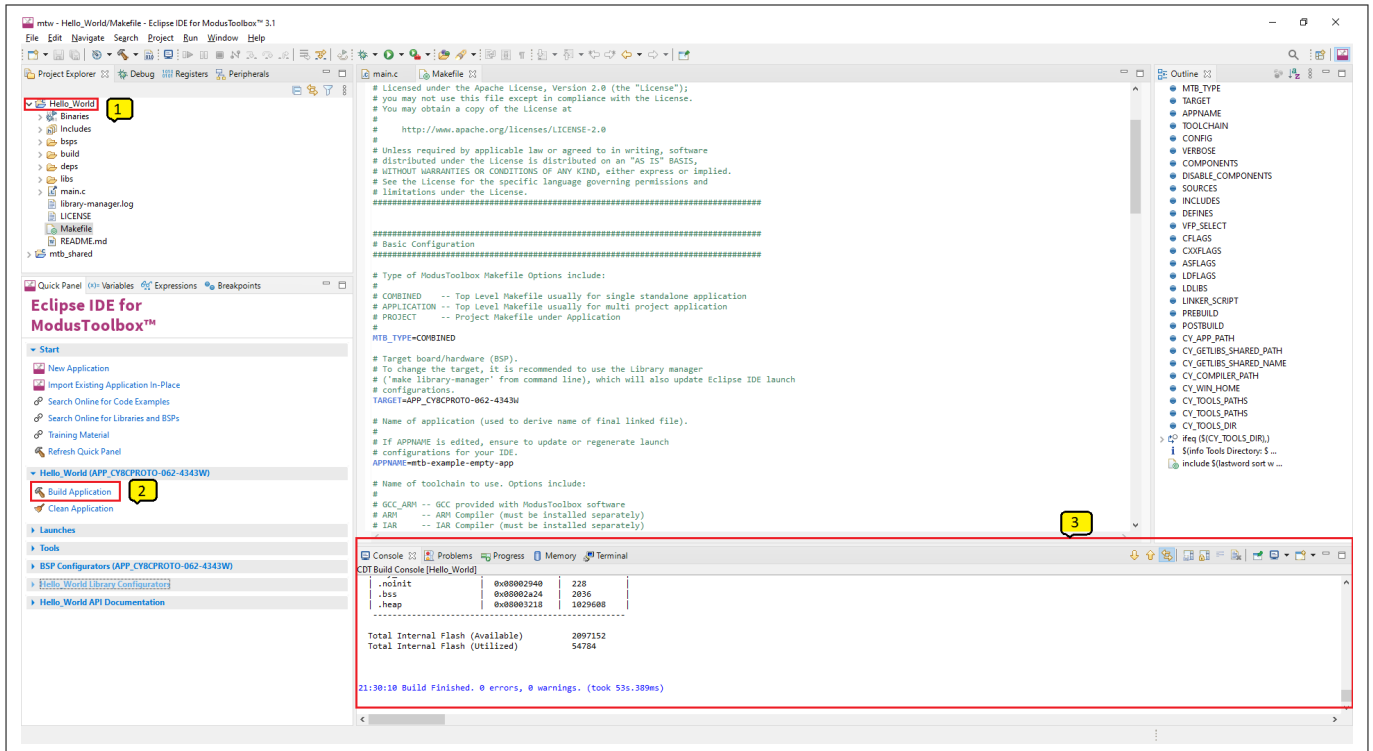

Figure 20 Build the application
3. The **Console view** lists the results of the build operation, as Figure 20 shows.